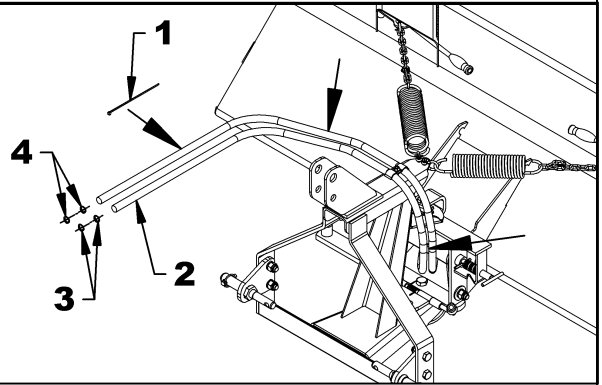

Figure 12A
- Figure 12A, B or C:** With three nylon tie wraps (item 1), attach together the hoses (item 2) to the places indicated by the arrows on the figure. The two other nylon tie wraps might be used to roll and attach together the hoses excess.
- Figure 12A, B or C:** Install a red identification ring (item 3) on the connector of a hose and the other red identification ring (item 3) on the related hydraulic output of the tractor valve. Install a blue identification ring (item 4) on the connector of the second hose and the other blue identification ring (item 4) on the second hydraulic output of the tractor valve.
NOTE: If the broom angling movement is not as desired, reverse the quick couplers on the valve and associate the colored plastic rings (fig.12A, B or C, items 3 and 4).